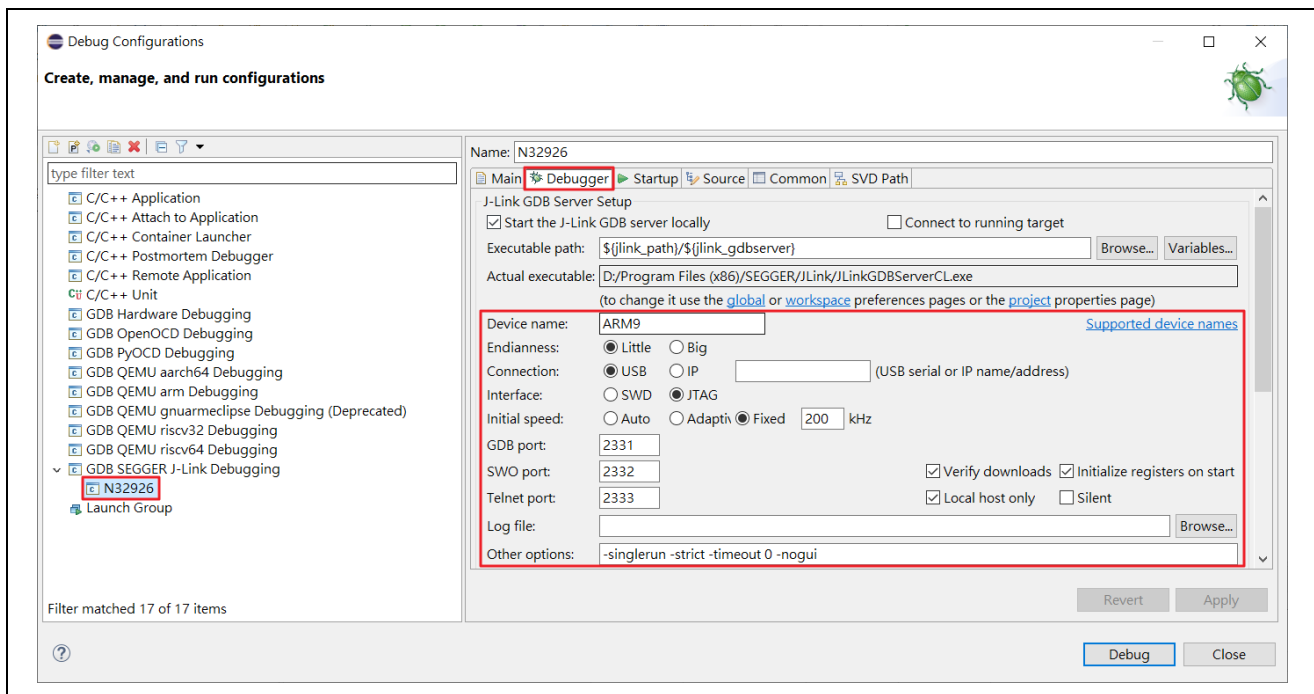

Figure 1-8 J-Link Debugger Setting
8. Select the corresponding configuration matched with your device. Go to **Debugger** tab, as shown in Figure 1-8.